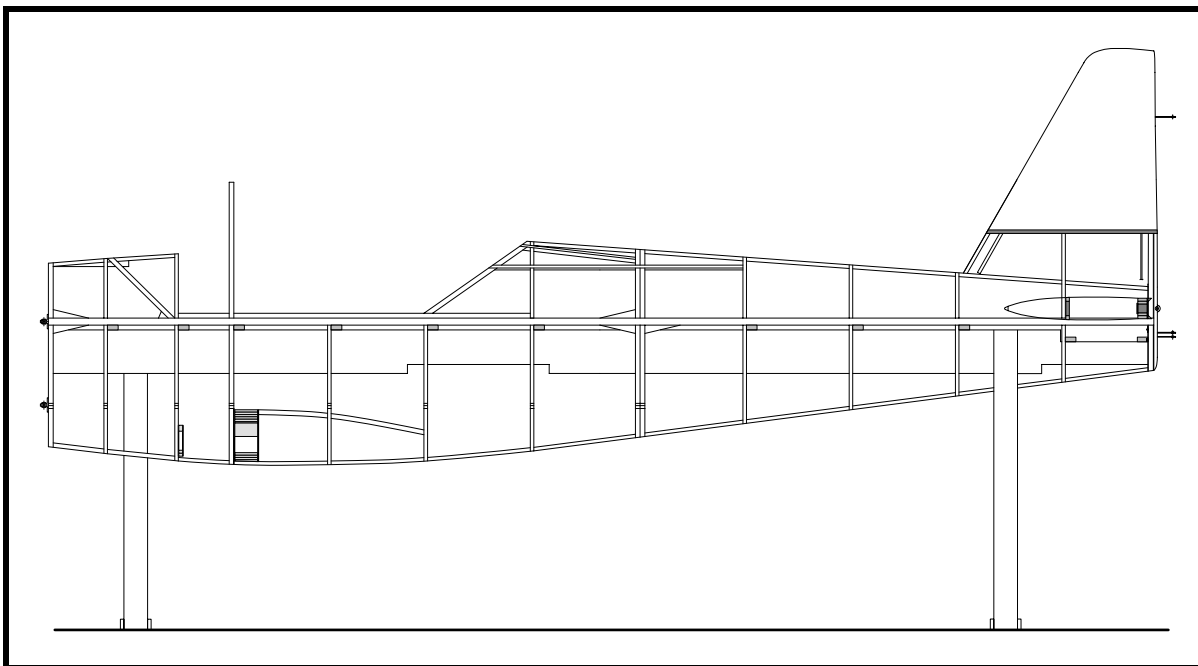

Figure 36
- ❑ Glue the top center tank support in place after trimming it to fit to the diagonal frame. At the outboard end of the diagonal frame, glue a 40mm corner block on the forward face of the frame and upper face of the upper side longeron. See Figure 36.